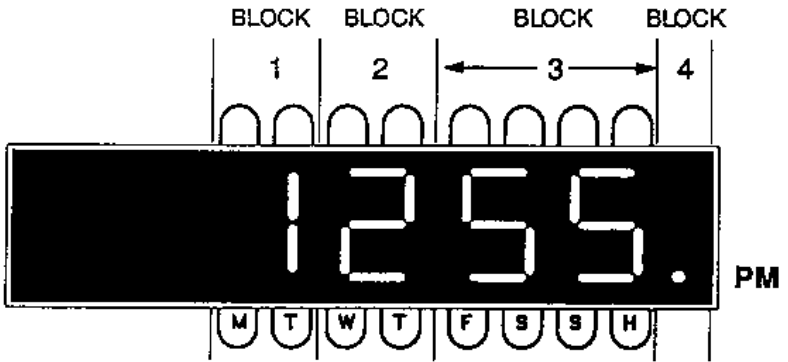

Figure 7: Status Blocks
Figure 7 on the next page illustrates the organization of Program Status and Input Status information, which is described in the sections on Program Review (Step A: *Program Status* on p. 32) and Input Review (p. 34). The "Status Blocks" shown here are locations on the display where status information appears. In particular, Blocks 1 and 2 consist of the two middle digits of the display, Block 3 is the two rightmost digits, and Block 4 is simply the decimal point. When these blocks contain the characters described in the adjoining chart, they can tell you much about the program or input you are reviewing.
1. Press **REVIEW** . Program status displays. See Figure 7 for status information.
3. Press **ENTER** . Status displays. See *Figure 7* for status information.